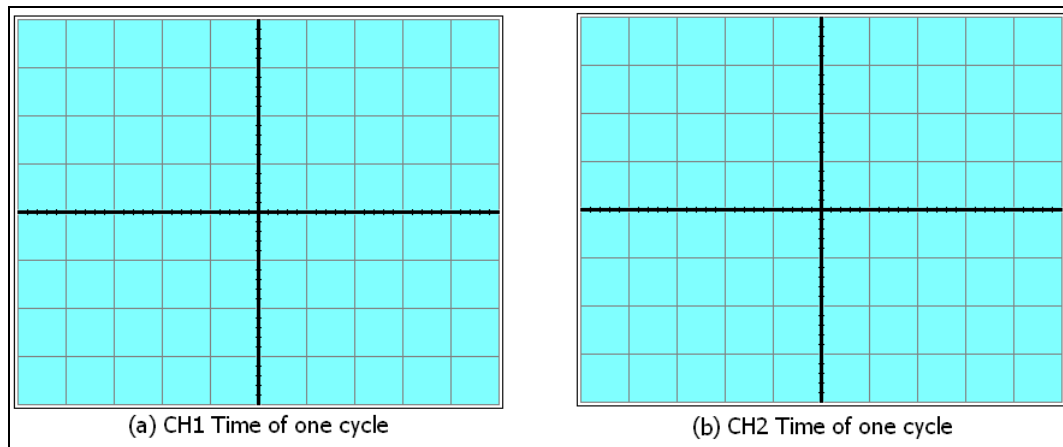

Fig. 2-2 Drawing the Waveforms
3. Turn on the ETW-3600 and adjust the output of the trainer by the multi-meter to be 7V (r.m.s). By measuring these value on the Oscilloscope you should found 10V as peak value. Connect the ground lead of the oscilloscope to point B in the circuit. Connect CH 1 scope probe to the unbanded end of the diode to measure the input AC. Connect CH 2 to point A to measure the output DC. Sketch the waveforms in the space provided in Fig. 2-2(a). The distortion on the power transformer in the ET-3100 trainer. Measure the time of one cycle of the input and compute the input and output frequencies. Draw 2 cycles of the input and output waveforms in the space provided in Fig. 2-2(b).